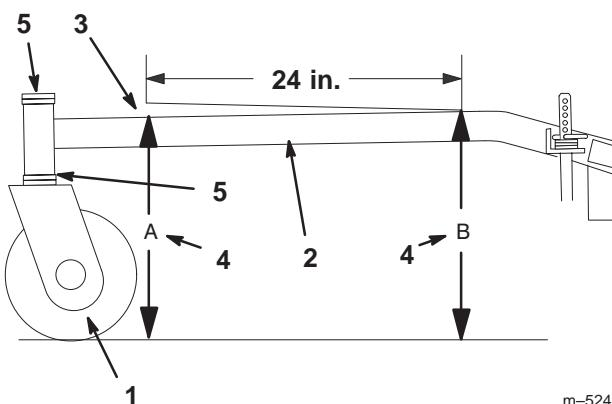

Figure 46
1. Measure out 24 inches on the carrier frame (Fig. 46).
2. Measure carrier frame height at location "A" (Fig. 46).
3. Measure carrier frame height at location "B" (Fig. 46).
4. The height at location "A" must be a 1/4-3/8 in. lower than location "B" (Fig. 46).
5. If the carrier frame is not correct, move caster spacers to make it a 1/4-3/8 in. pitch (Fig. 46). Move spacers from top or bottom to make the correct pitch.